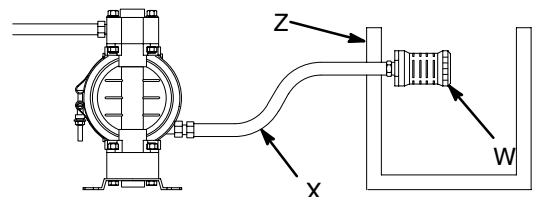

Fig. 2
- The Typical Installations in Fig. 2 are only guides for selecting and installing system components. Contact your Graco distributor for assistance in planning a system to suit your needs.
- Fig. 2 shows some installation examples. On all installations, mount the pump using screws and nuts.
A bleed-type master air valve (B) is required in your system to relieve air trapped between this valve and the pump. See Fig. 2. Trapped air can cause the pump to cycle unexpectedly, which could result in serious injury, including splashing in the eyes or on the skin, injury from moving parts, or contamination from hazardous fluids.
1. Install the air line accessories as shown in Fig. 2. Mount these accessories on the wall or on a bracket. Be sure the air line supplying the accessories is electrically conductive.
- a. The fluid pressure can be controlled in either of two ways. To control it on the air side, install an air regulator (G). To control it on the fluid side, install a fluid regulator (J) near the pump fluid outlet (see Fig. 2).
- b. Locate one bleed-type master air valve (B) close to the pump and use it to relieve trapped air. Read the **WARNING** above. Locate the other master air valve (E) upstream from all air line accessories and use it to isolate them during cleaning and repair.
- c. The air line filter (F) removes harmful dirt and moisture from the compressed air supply.
2. Install an electrically conductive, flexible air hose (C) between the accessories and the 1/4 npt(f) pump air inlet. Use a minimum 1/4" (6.3 mm) ID air hose. Screw an air line quick disconnect coupler (D) onto the end of the air hose (C), and screw the mating fitting into the pump air inlet snugly. Do not connect the coupler (D) to the fitting yet.
A fluid drain valve (H) is required in your system to relieve pressure in the hose if it is plugged. See Fig. 2. The drain valve reduces the risk of serious injury, including splashing in the eyes or on the skin, or contamination from hazardous fluids when relieving pressure. Install the valve close to the pump fluid outlet.
1. Use electrically conductive fluid hoses (K). The pump fluid outlet is 3/4 in. Screw the fluid fitting into the pump outlet snugly. **Do not overtighten.**
2. Install a fluid regulator (J) at the pump fluid outlet to control fluid pressure, if desired (see Fig. 2). See **Air Line**, step 1a, for another method of controlling pressure.
3. Install a fluid drain valve (H) near the fluid outlet. Read the **WARNING** above.
Diaphragm failure will cause the fluid being pumped to exhaust with the air. Place an appropriate container at the end of the air exhaust line to catch the fluid. See Fig. 2 .
See **Venting Exhaust Air** in Fig. 2. Exhaust to a remote location as follows:
1. Remove the muffler (W) from the pump air exhaust port.
2. Install an electrically conductive air exhaust hose (X) and connect the muffler to the other end of the hose. The minimum size for the air exhaust hose is 3/8 in. (10 mm) ID. If a hose longer than 15 ft (4.57 m) is required, use a larger diameter hose. Avoid sharp bends or kinks in the hose.
3. Place a container (Z) at the end of the air exhaust line to catch fluid in case a diaphragm ruptures. See Fig. 2.
1. Fig. 2 and Parts Drawings. Follow preceding steps 1 through 8 of **Starting and Adjusting Pump**.
2. Open air regulator (G).